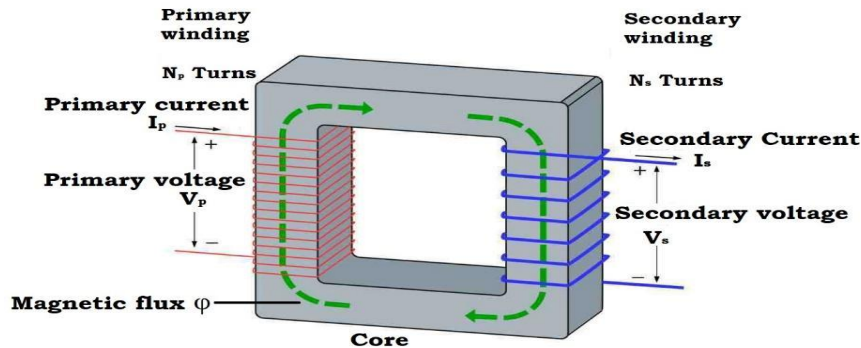

Fig. 3.23 Step-down transformer
The step-down transformer is widely used in various applications, such as electrical power distribution, where the voltage needs to be reduced to a safe and usable level for residential, commercial, and industrial purposes. It is also utilized in electronic devices and appliances to provide the appropriate voltage levels required for their operation. Figure 3.23 illustrates the number of turns in primary winding is greater than in secondary winding.
2. Plug the red lead into the $V\Omega mA$ (centre) jack. Plug the black lead into the COM (Bottom) Jack. Switch the Multi meter ON as shown in Figure 3.23.